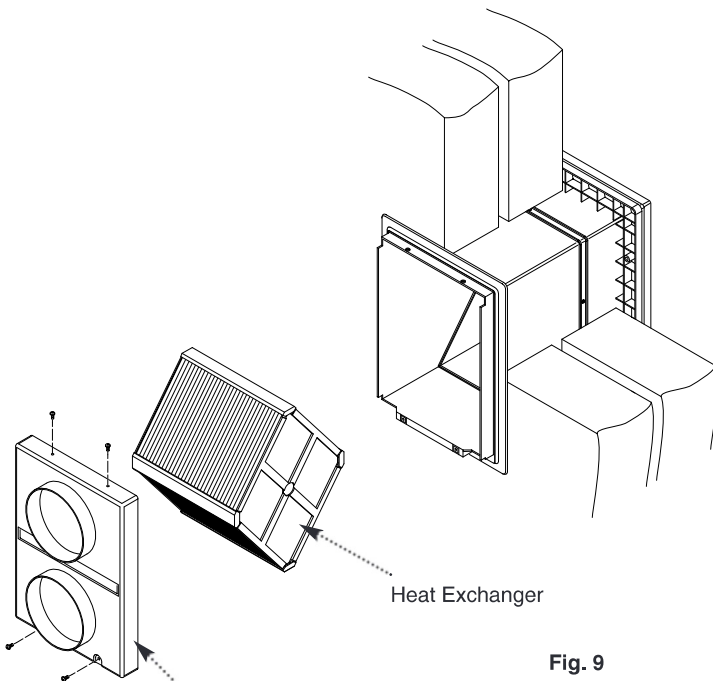

Fig. 9
5. Slide the heat exchanger into the unit (Fig. 9).
6. Locate the connection spigot plate on to the front of the unit and secure with the four screws provided (Fig. 9).